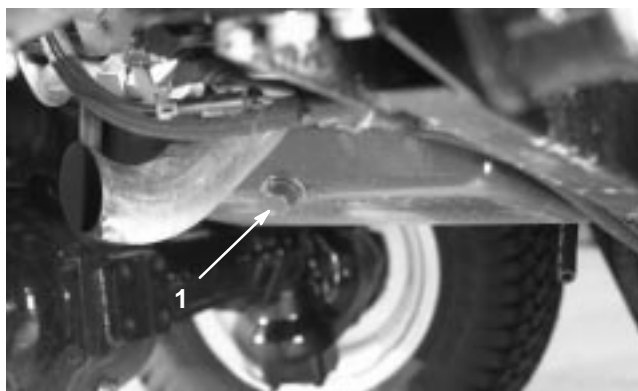

Figure 48
1. Remove either drain plug (Fig. 48) and let the oil flow into a drain pan. When the oil stops, install the drain plug.